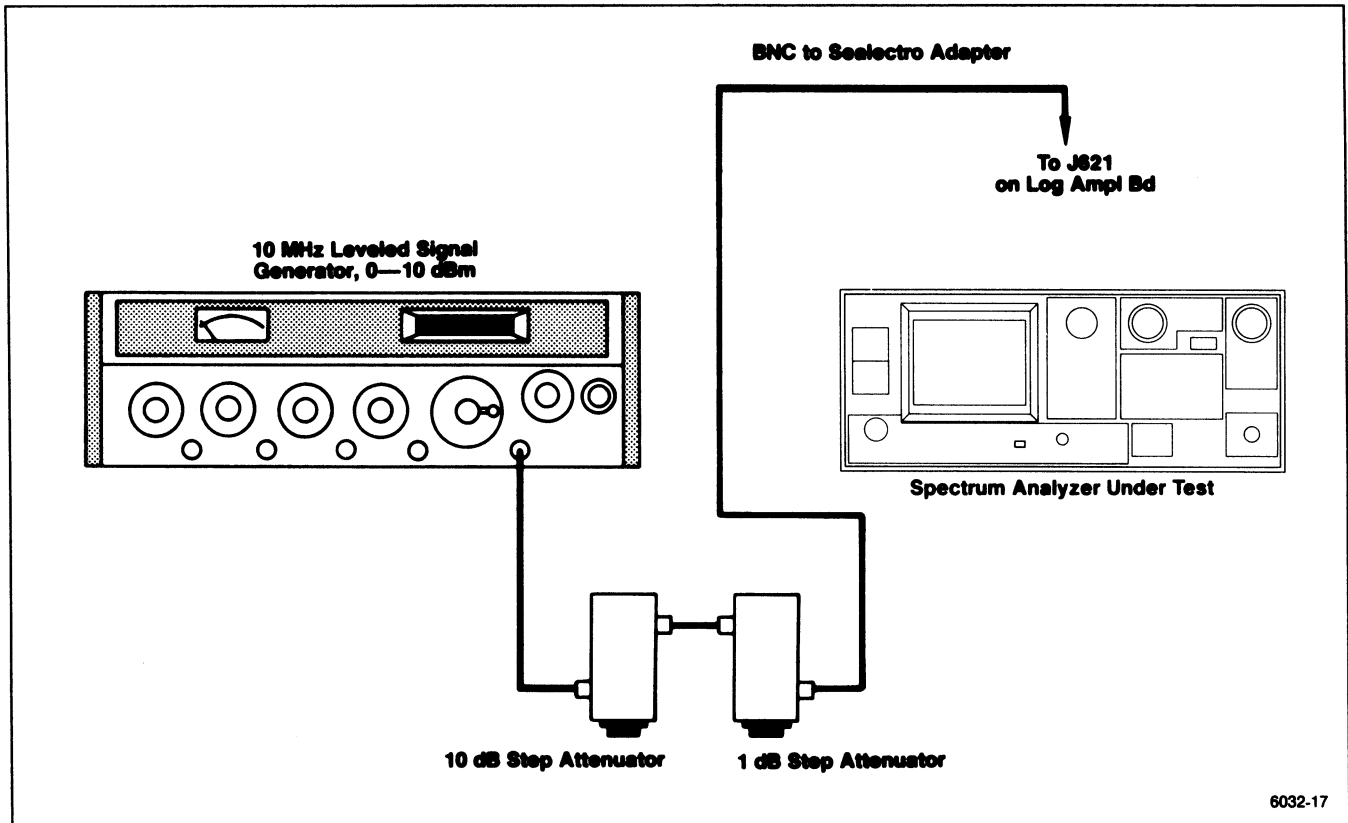
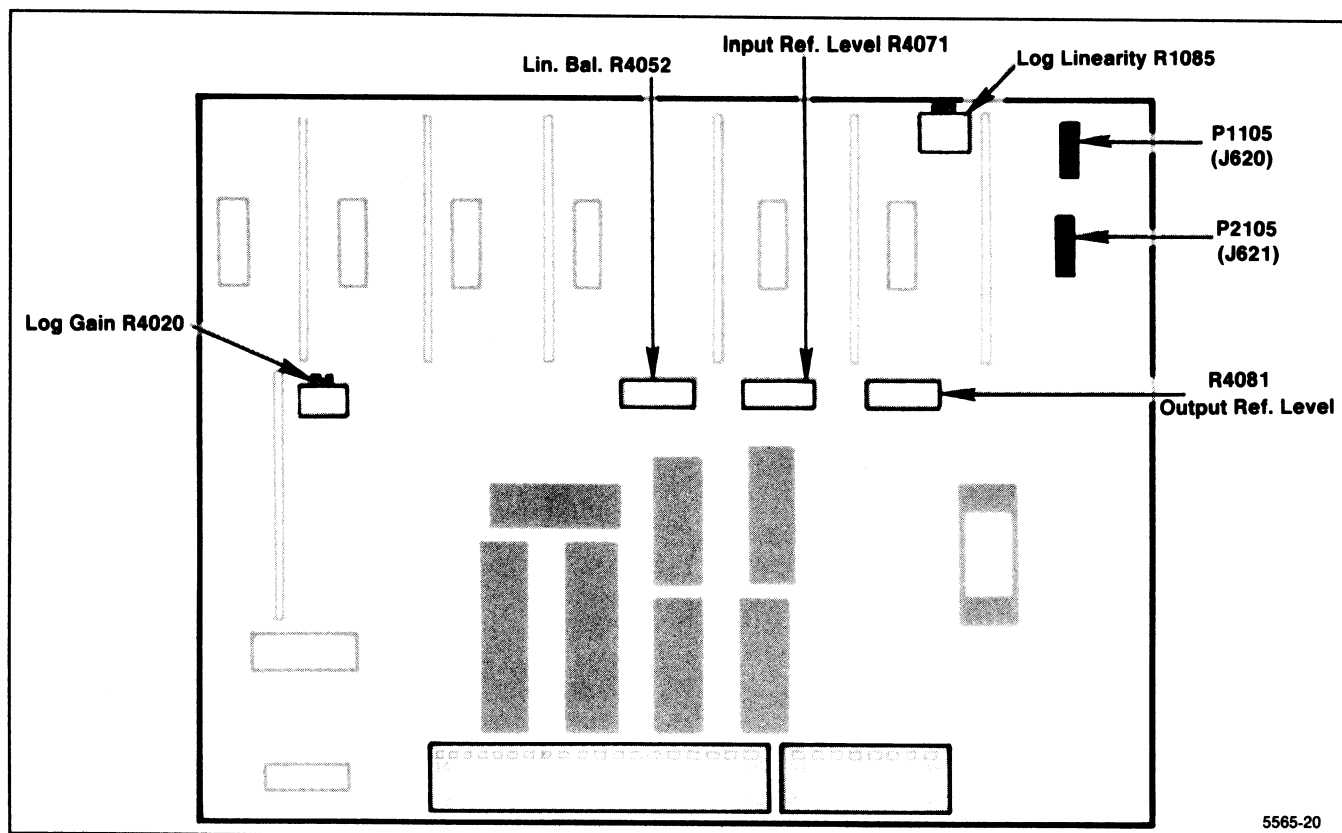

Figure 5-14. Test equipment setup for adjusting the Log Amplifier.
Figure 5-15. Log and Video Amplifier test point and adjustment locations.
c. Connect the test equipment as shown in Figure 5-14. (P621 must be removed in order to access J621 on the Log Amplifier board. See Figure 5-15.) Set the Spectrum Analyzer controls as follows:
i. Adjust the Log Gain, R4020 (Figure 5-15) so each 10 dB increment of attenuation results in one major division of change on the display.
k. Adjust Input Ref Lvl, R4071 (Figure 5-15) for minimum amplitude change between the 10 dB/DIV and 2 dB/DIV displays while alternately switching the VERTICAL DISPLAY between 10 dB/DIV and 2 dB/DIV.
n. Adjust Output Ref Lvl, R4081 (Figure 5-15) for a full screen (eight divisions) display.
o. Switch to the 10 dB/DIV mode and set the step attenuators for 40 dB of attenuation. Adjust Log Linearity, R1085 (Figure 5-15) so the display is mid-screen.
u. Press LIN and adjust Lin Mode Balance, R4052 (Figure 5-15) for a full screen display. Amplitude of LIN, 2 dB/DIV, and 10 dB/DIV display should now be the same.